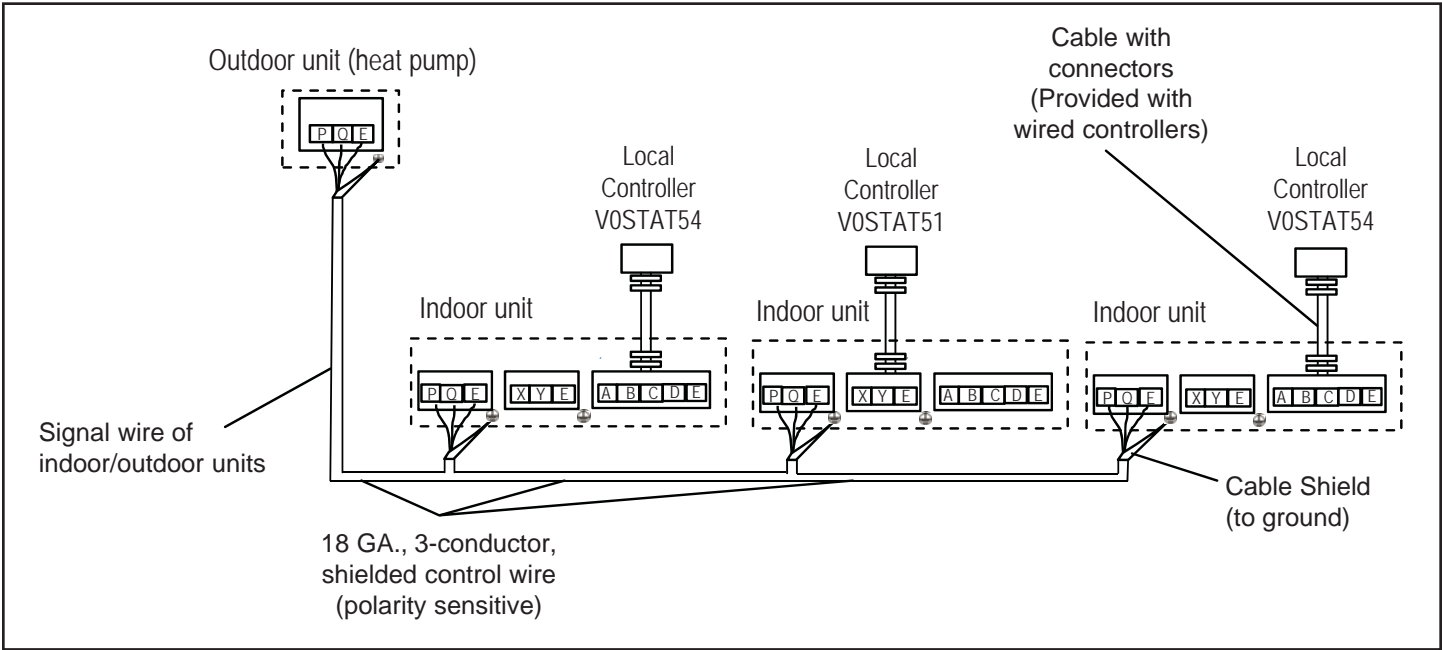

Figure 7. Typical Low-Voltage Field Wiring
2. Locate the terminal strip in the outdoor unit control box. Connect the power wiring (sized per NEC/CEC and local codes) and communications cable (3-conductor, shielded cable) per figure 7. Refer to unit nameplate for rated voltage.